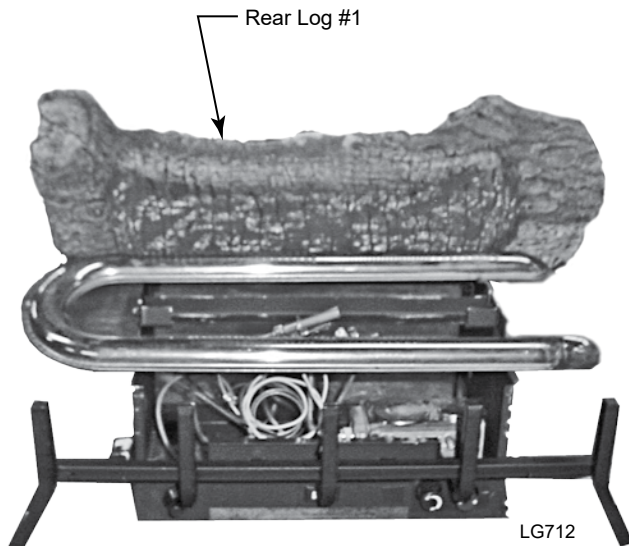

Figure 24 - Place Rear Log
1. Place Rear Log (#1) on rear support. *Figure 24*